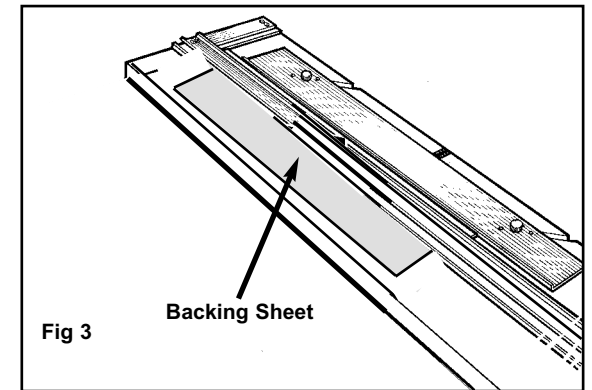

Fig 3
A Backing Sheet is a piece of scrap matboard placed underneath the mat to be cut when bevel cutting. The Backing Sheet must be at least as long as the mat being cut and at least 4" wide. This protects the blades while cutting and produces a better cut. **Fig . 3**
5. Using a pencil, draw a line down the full length of the back of the matboard. Repeat this for the remaining three sides. **Fig. 3**
2. Looking at the tip of the blade, measure the exposed amount with a ruler at the same angle as the blade. For standard thickness mat board (4 ply) only 1/8" of blade should be seen. To adjust, find the screw head recessed below the bottom of the surface of the cutting head near where the blade is coming out. **Fig. 3**